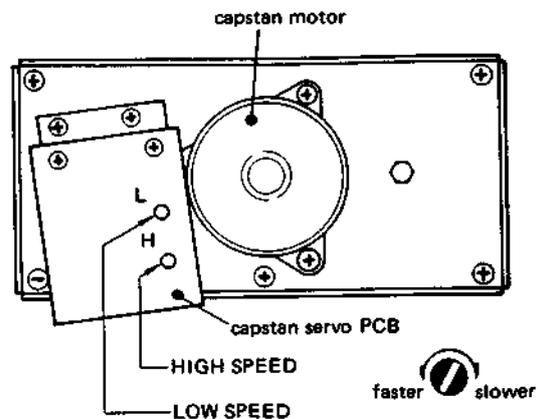

Fig. 2-17 FWD/REV play speed adjustment points
3. Play the tape. Adjust HIGH SPEED control (see Fig. 2-17) for a reading of 3,000Hz  $\pm$ 5Hz.
1. 調整箇所 図2-17参照